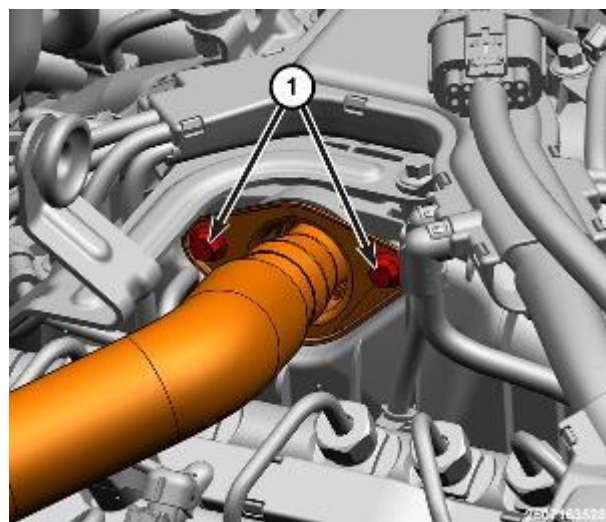

Figure 103 – Upper EGR Tube
19. Remove the upper Exhaust Gas Recirculation (EGR) tube bolts (1) (Figure 103).